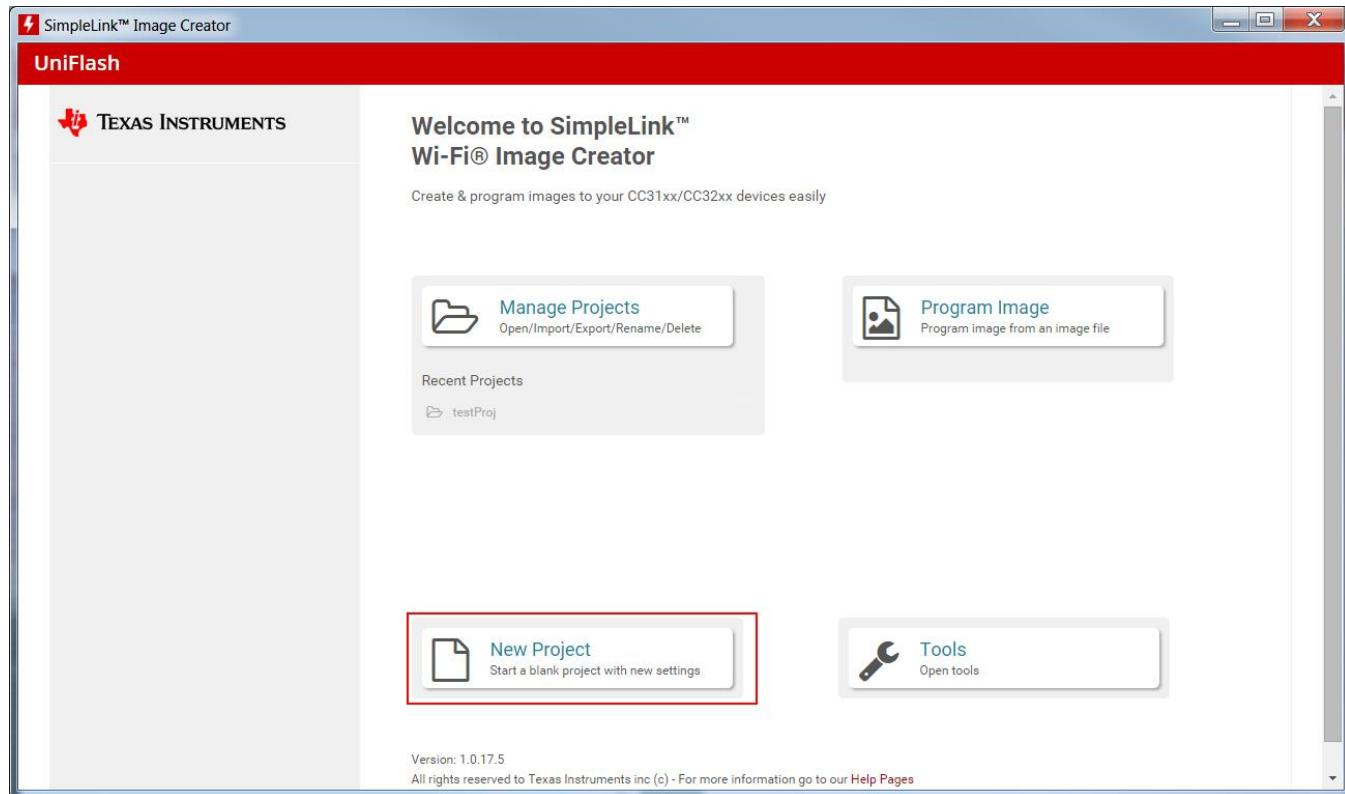

図 16. New Project
3. After starting Image Creator, click on the *New Project* button as in 図 16.